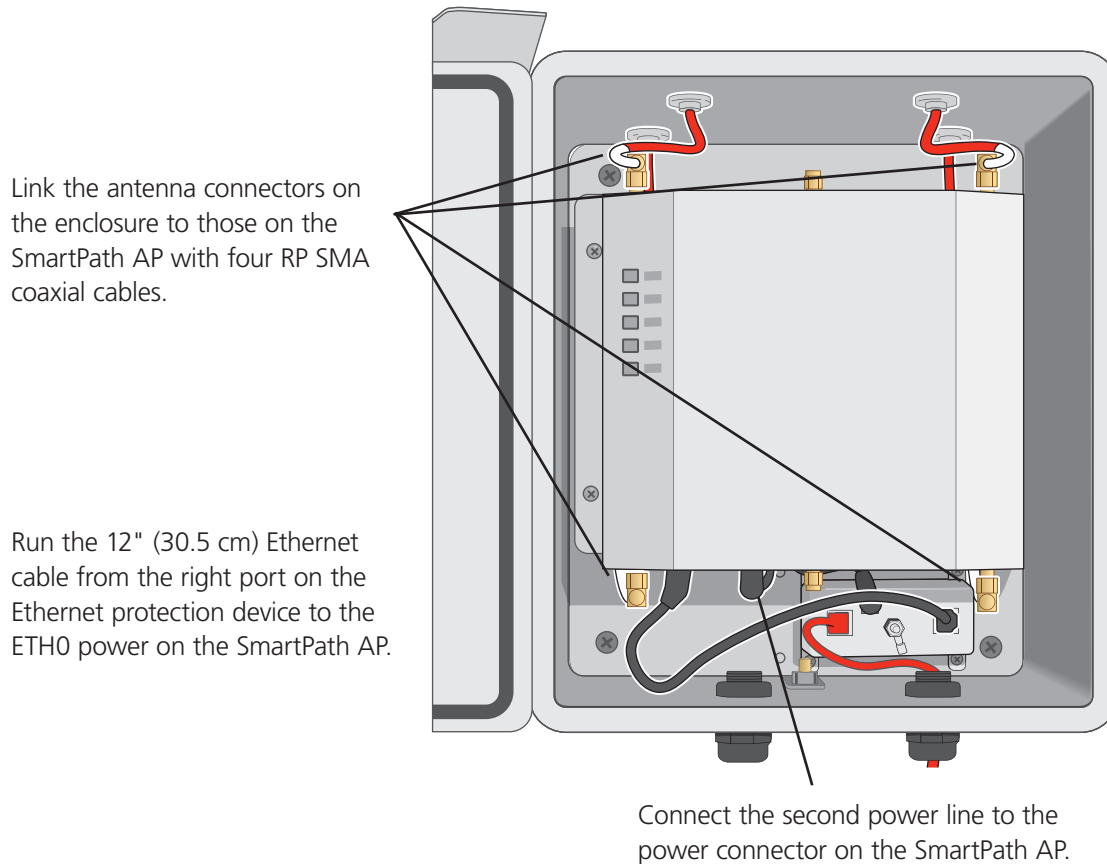

Figure 11. Connecting the Ethernet cable and antenna wires to the SmartPath AP.
2. Connect the RP SMA coaxial cables to the antenna connectors, run the short Ethernet cable from the right port in the Ethernet protection device to the ETH0 port on the SmartPath AP (LWN602HA), and connect the second power line to the SmartPath AP 48-volt DC power connector, as shown in Figure 11.